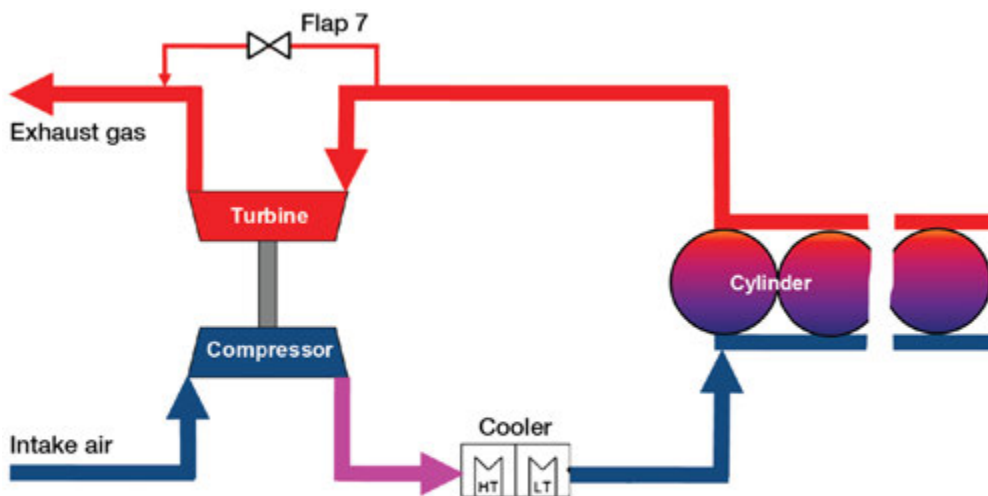

Figure 4: Overview flaps
*Temperature after turbine control by continuously adjustable waste gate (see flap 7 in figure 4)*